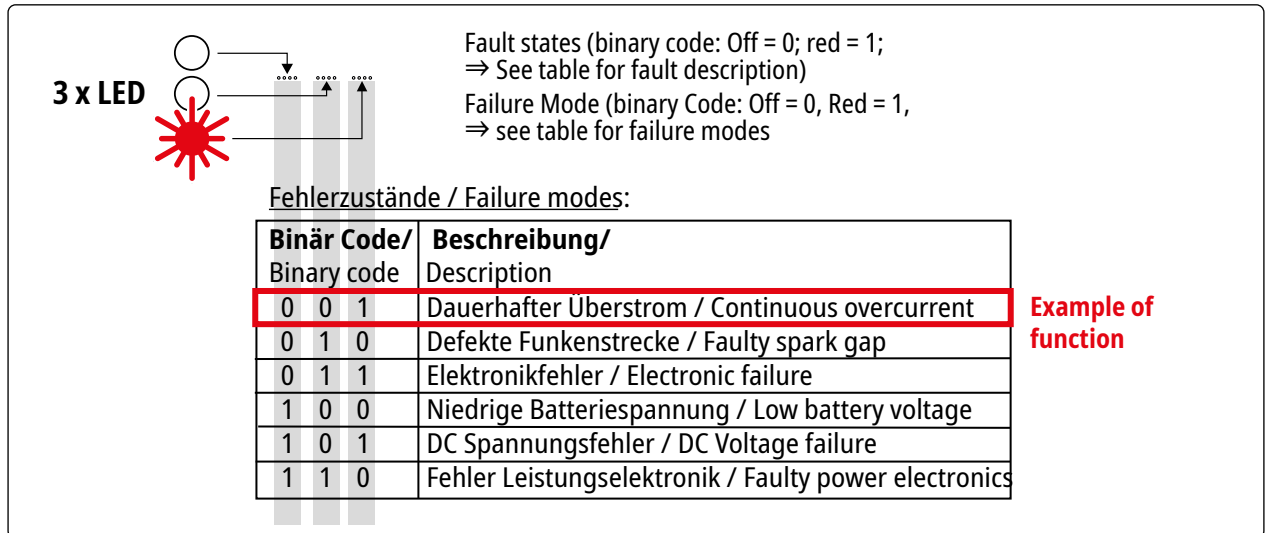

Figure 12 Fault states
Possible fault states are binary coded (dual system 0/1) and displayed or assigned accordingly via the three fault state LEDs (see Fig. 12).
- ➔ After analysing (see Table 3, page 23) and eliminating the fault, if needed, the **failure mode** can be reset by pressing the "**Reset failure mode**" button (see Fig. 12).